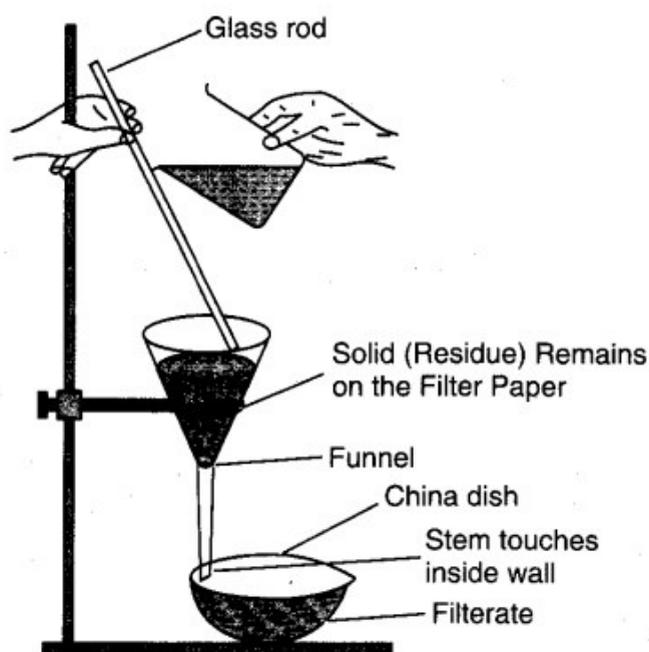

Fig. 5.5. Removing insoluble impurities by filtration.
5. Hold a glass rod in slanting position in your hand or with a precaution that the lower end of the rod should reach into the filter paper cone but it does not touch it. Pour the solution along the glass rod as shown in Fig. 5.5. The filtrate passes through the filter paper and is collected into the china dish placed below. The insoluble impurities are left behind on the filter paper.